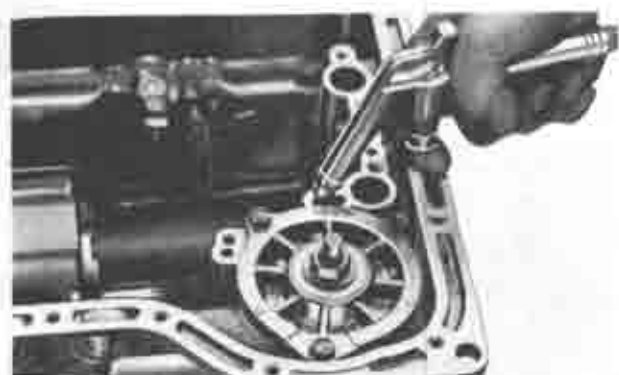

Fig. 2-32 Checking band servo (1)
8. Blow compressed air into the oil hole on the servo piston apply side to make sure that the piston operates properly, as in Fig. 2-32.